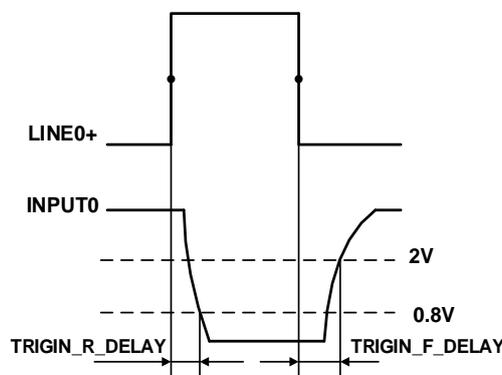

Figure 7-32 Parameter of opto-isolated input circuit
- Rising edge delay: $<50\mu\text{s}$ ($0^\circ\text{C}\sim 45^\circ\text{C}$), parameter description as shown in Figure 7-32
- Falling edge delay: $<50\mu\text{s}$ ($0^\circ\text{C}\sim 45^\circ\text{C}$), parameter description as shown in Figure 7-32